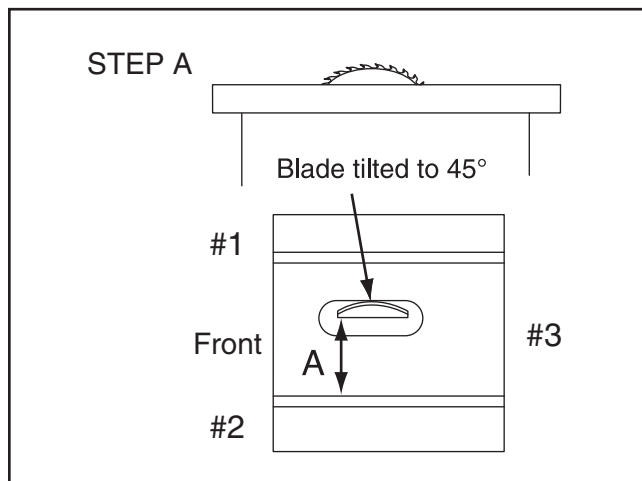

Figure 113. Shim procedure diagram A.
9. Loosen (4) table mounting bolts from **Step 6**.
10. Refer to **Figures 113–114** for shim placement. If distance A is shorter than B, shim(s) will need to be placed under corners #1 and #2. If the distance of B is shorter than A, shim(s) will need to be placed under corner #3. Very thin shim stock works well.